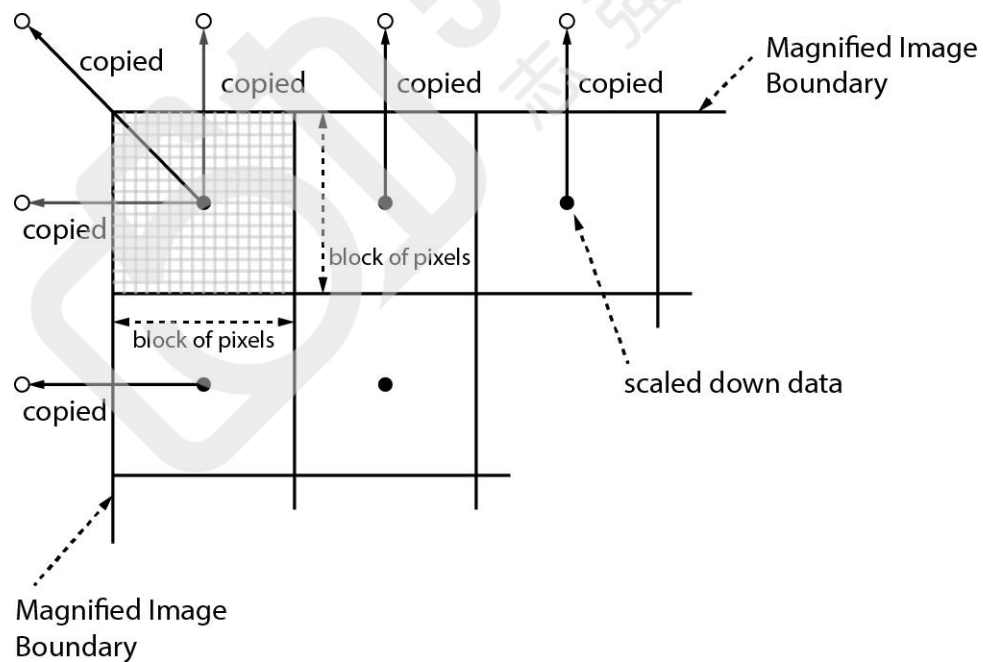

Figure 9.7 Bilinear Interpolated Magnification
4. Execute the **Flat Field Data Save** parameter to save the generated Flat Field correction data into the non-volatile memory. The scaled-down Flat Field correction data will be expanded and then applied as shown in the Figure 9.7 when it is used for correction.